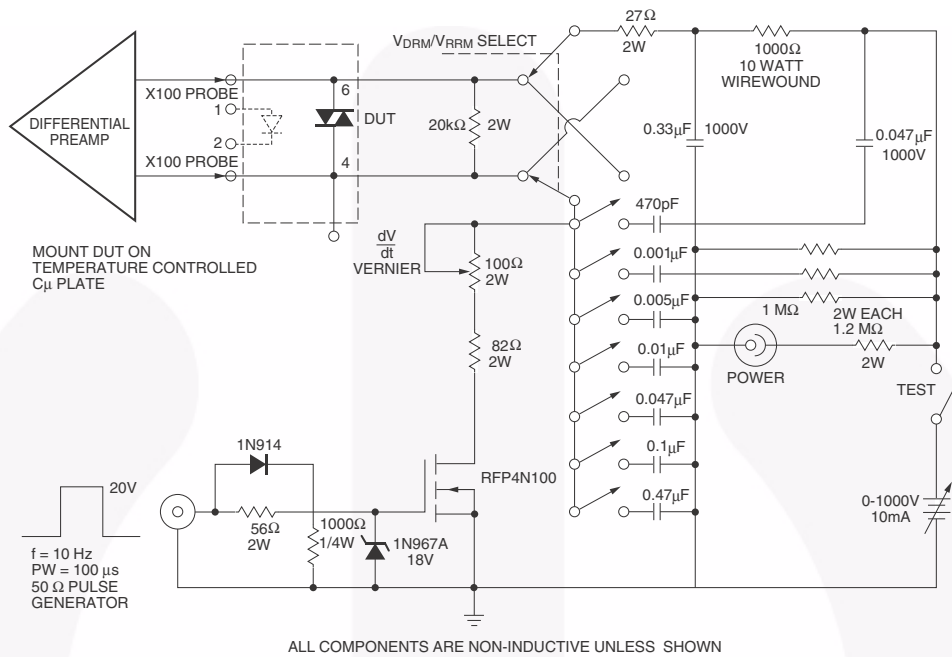

Figure 11. Circuit for Static $\frac{dv}{dt}$ Measurement of Power Thyristors
| dv/dt | Critical Rate of Rise of Off-State Voltage | $I_F = 0$ (Figure 11) ⁽²⁾ | MOC306XM MOC316XM | 600 1000 | 1500 | | V/ μs |
- This is static dv/dt. See Figure 11 for test circuit. Commutating dv/dt is a function of the load-driving thyristor(s) only.